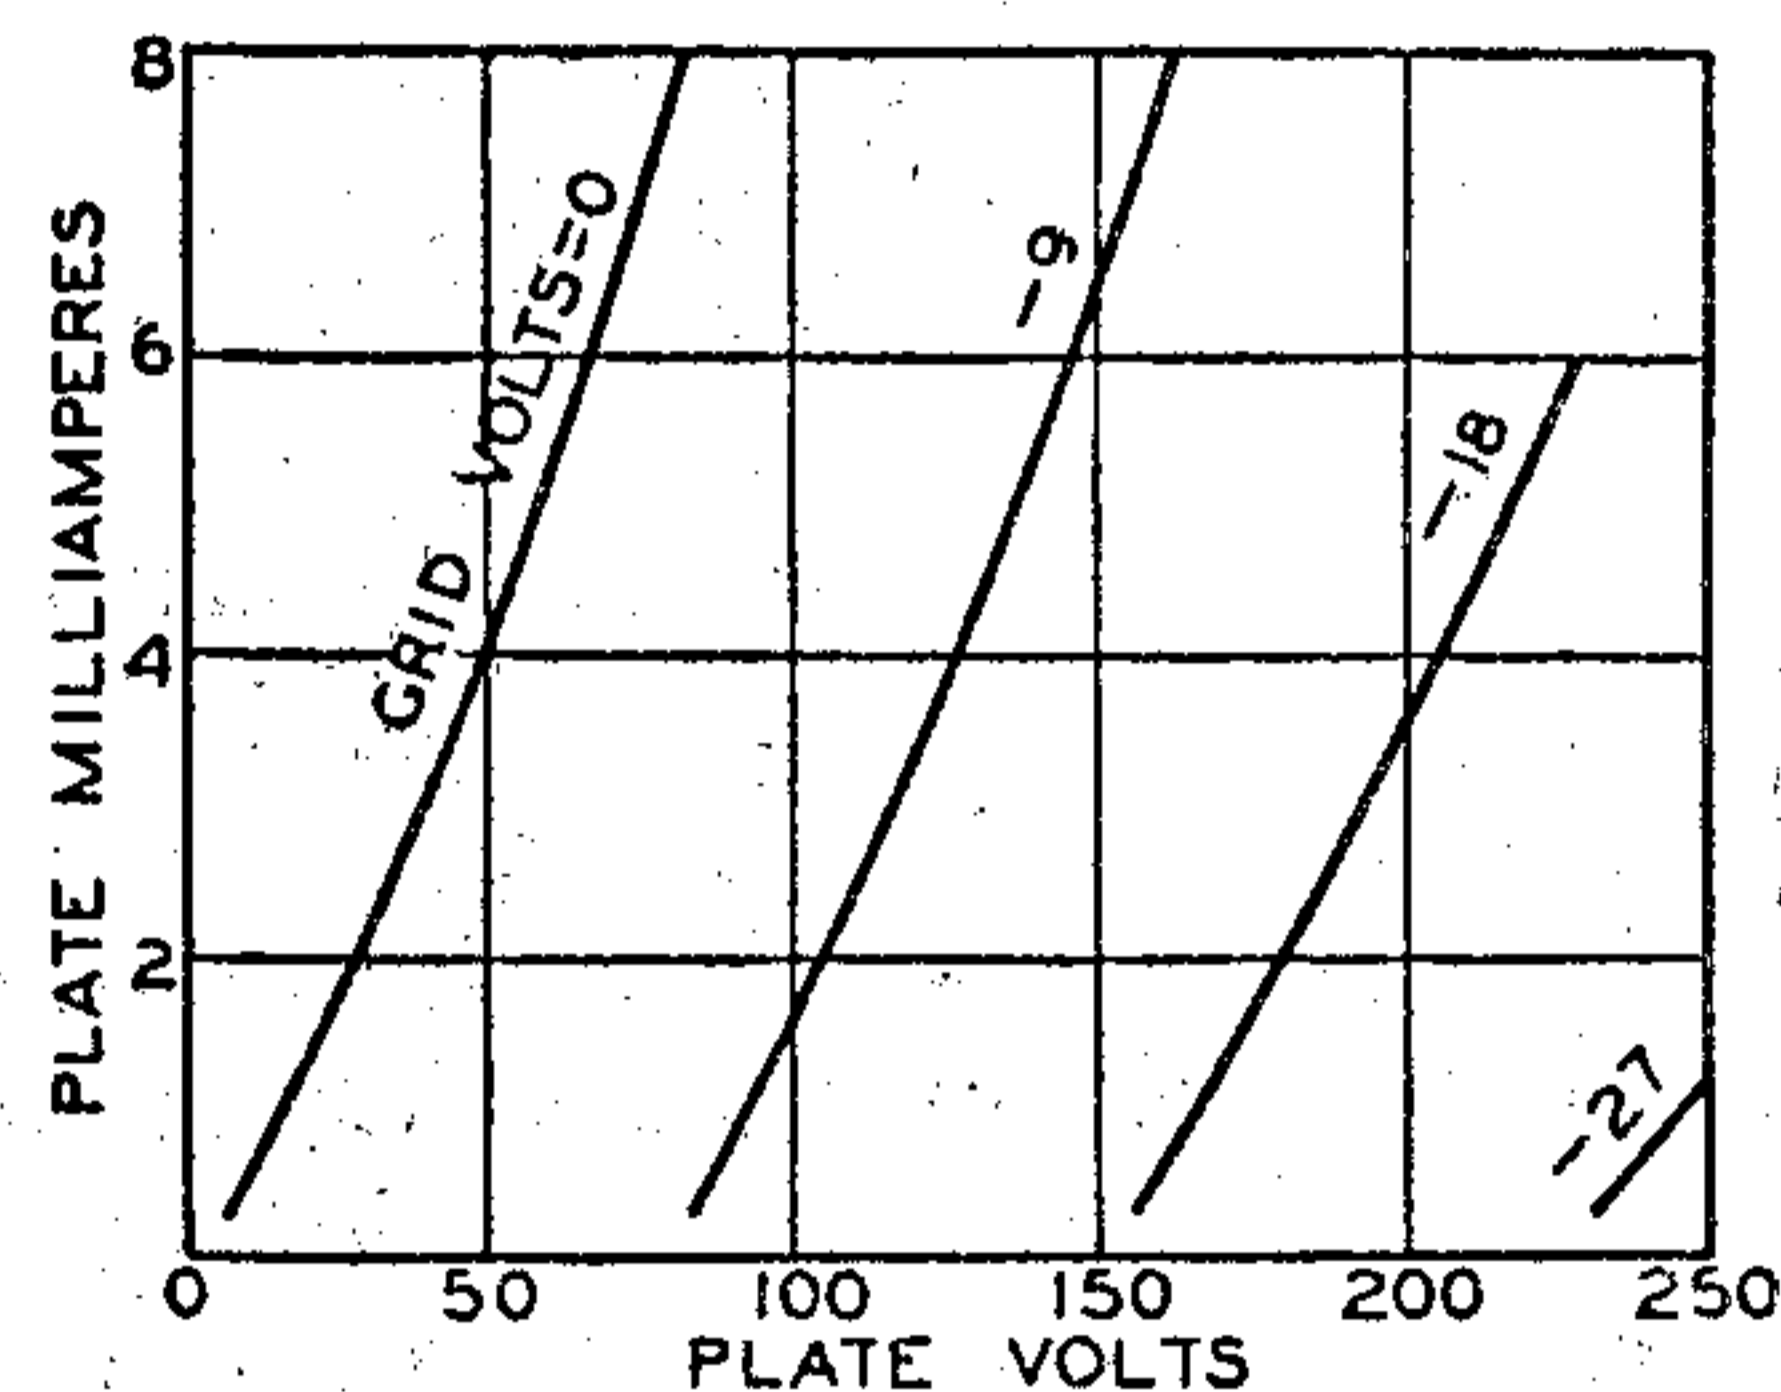
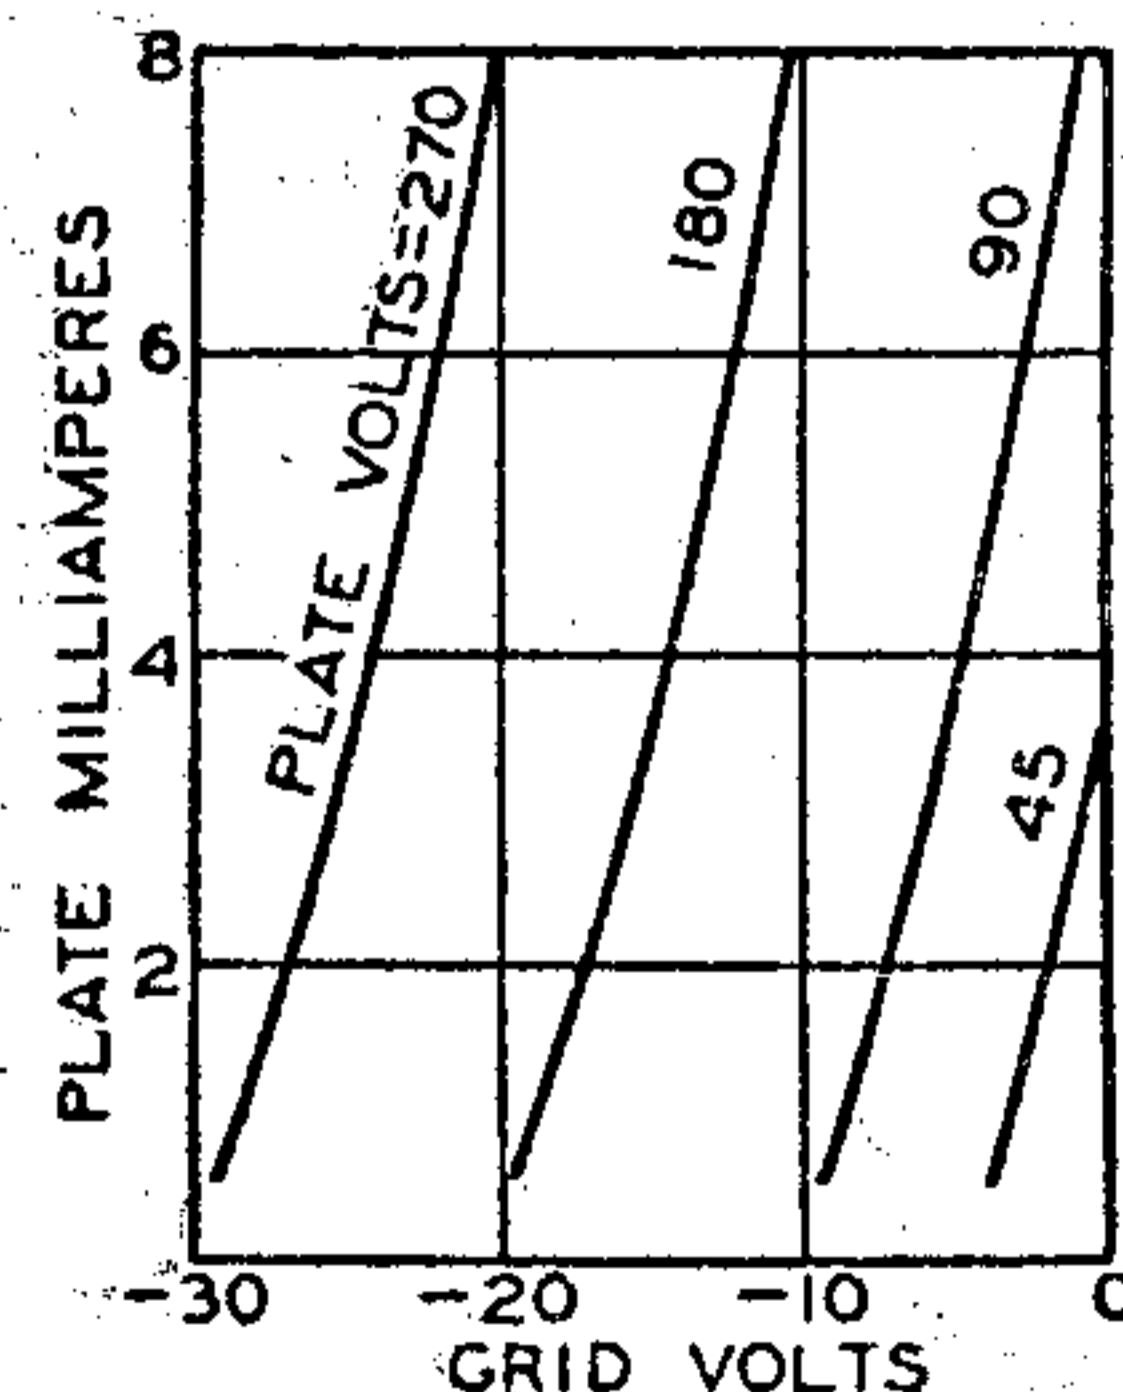

Fig. 12—Family of plate-characteristics curves.
Fig. 13—Family of transfer-characteristics curves.
**Static characteristics** may be shown by plate characteristics curves and transfer (mutual) characteristics curves. These curves present the same information, but in two different forms to increase its usefulness. The plate characteristic curve is obtained by varying plate voltage and measuring plate current for different grid-bias voltages, while the transfer-characteristic curve is obtained by varying grid-bias voltage and measuring plate current for different plate voltages. A plate-characteristic family of curves is shown in Fig. 12. Fig. 13 gives the transfer-characteristic family of curves for the same tube.